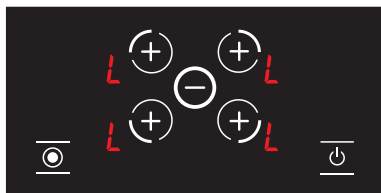

Figure 21
3. The child lock is activated at this time and the **L** icon is displayed on all hobs to indicate this condition. (see Fig. 21) The **L** and **H** icons are displayed alternatively if any hob is hot.